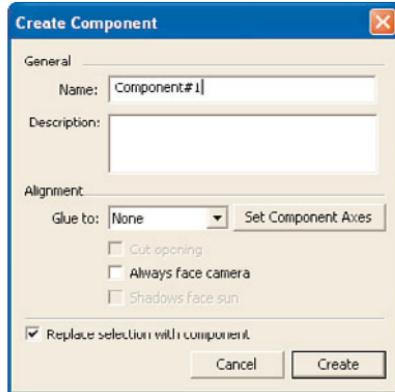

FIGURE 6.6 The Create Component dialog box.
7. Select the Edit menu's **Make Component** menu item. SketchUp displays the dialog box you see in Figure 6.6.